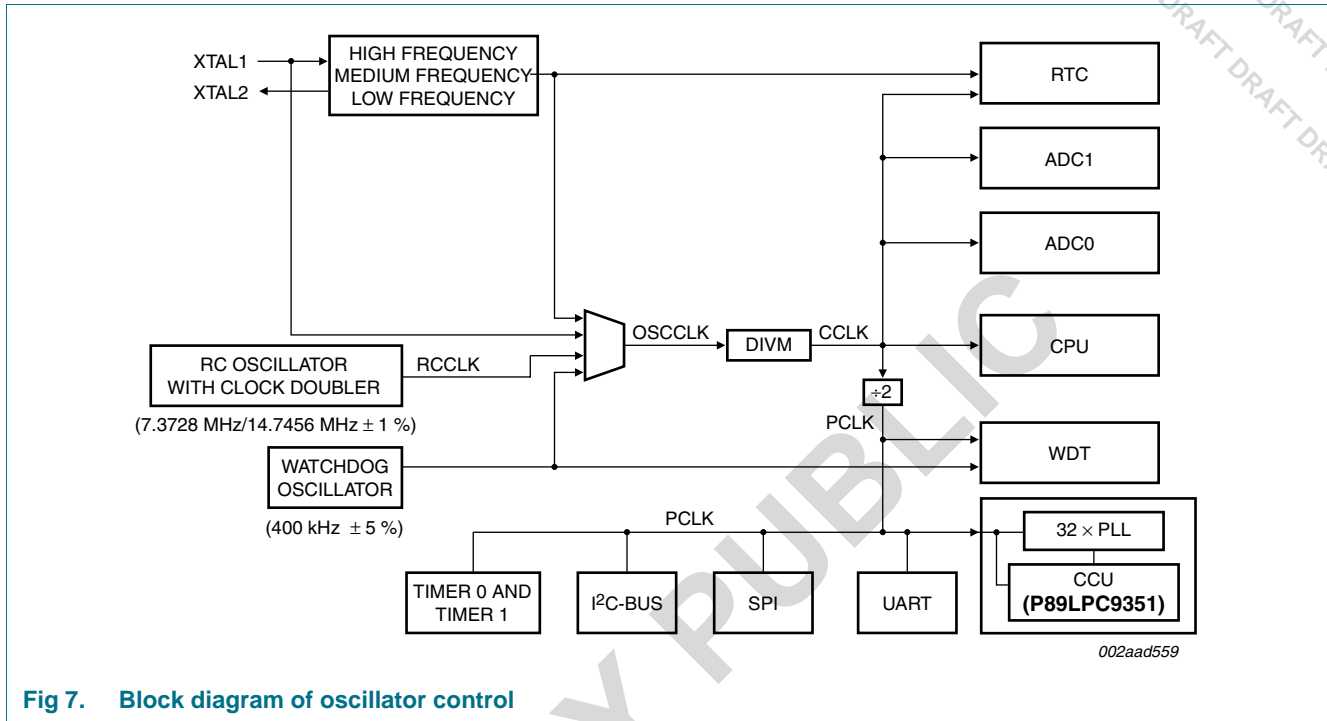

Fig 7. Block diagram of oscillator control
**OSCCLK** — Input to the DIVM clock divider. OSCCLK is selected from one of four clock sources (see Figure 7) and can also be optionally divided to a slower frequency (see Section 7.11 “CLK modification: DIVM register”).